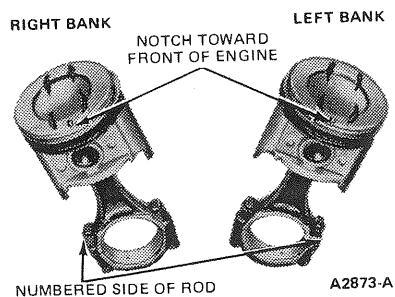

FIG. 77 Correct Piston and Rod Positions
1. Apply a light coat of engine oil SE to all parts. **Assemble the piston to the connecting rod with the indentation in the piston positioned as shown in Figure 77.**
2. Start the piston pin in the piston and connecting rod (this may require a very light tap with a mallet). Using an Arbor Press, press the piston pin through the piston and connecting rod until the pin is centered in the piston (Figure 77).